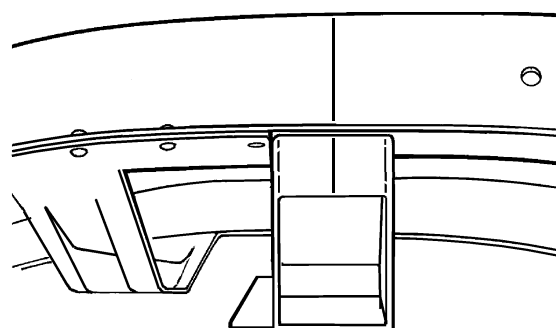

Figure 4
5. Next slip the crossmember up into the frame, center it on the scribed axle center line (Figure 4). If it does not fit, grind the sides of the crossmember until you can get the crossmember in place, as shown. Make sure the crossmember is seated fully on the underside of the actual frame lower surface and not the remaining flange of the old front crossmember section you trimmed out. Figure 6 shows this clearly. Tack weld in place, check location, then weld in place, welding all around both ends, top, sides, and bottom.